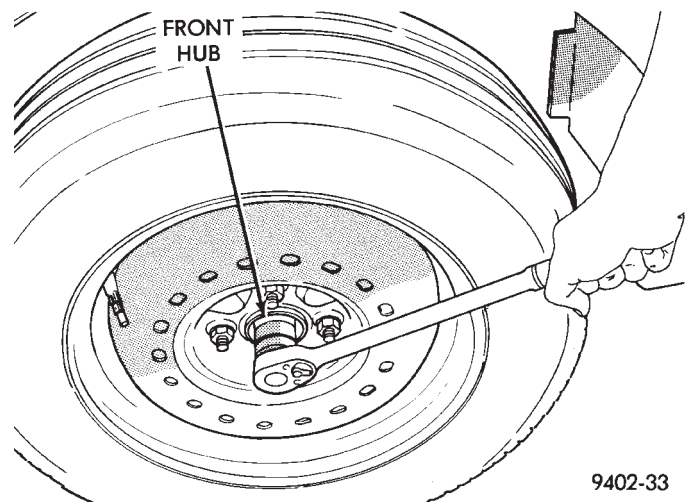

Fig. 13 Loosening Front Hub Nut
(2) Loosen hub nut while vehicle is on the floor with the brakes applied (Fig. 13). **The hub and driveshaft are splined together through the knuckle (bearing) and retained by the hub nut.**